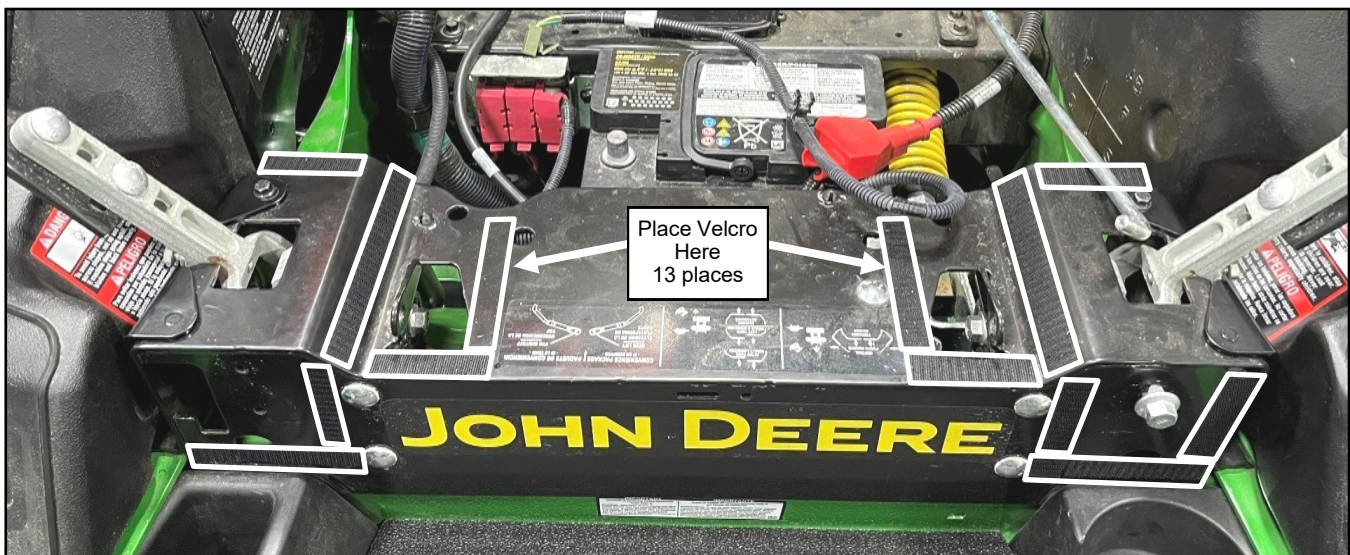

Fig. 1.23 (Install Velcro)
1.23 Install (13) pieces of Velcro as shown in Figure 1.23.